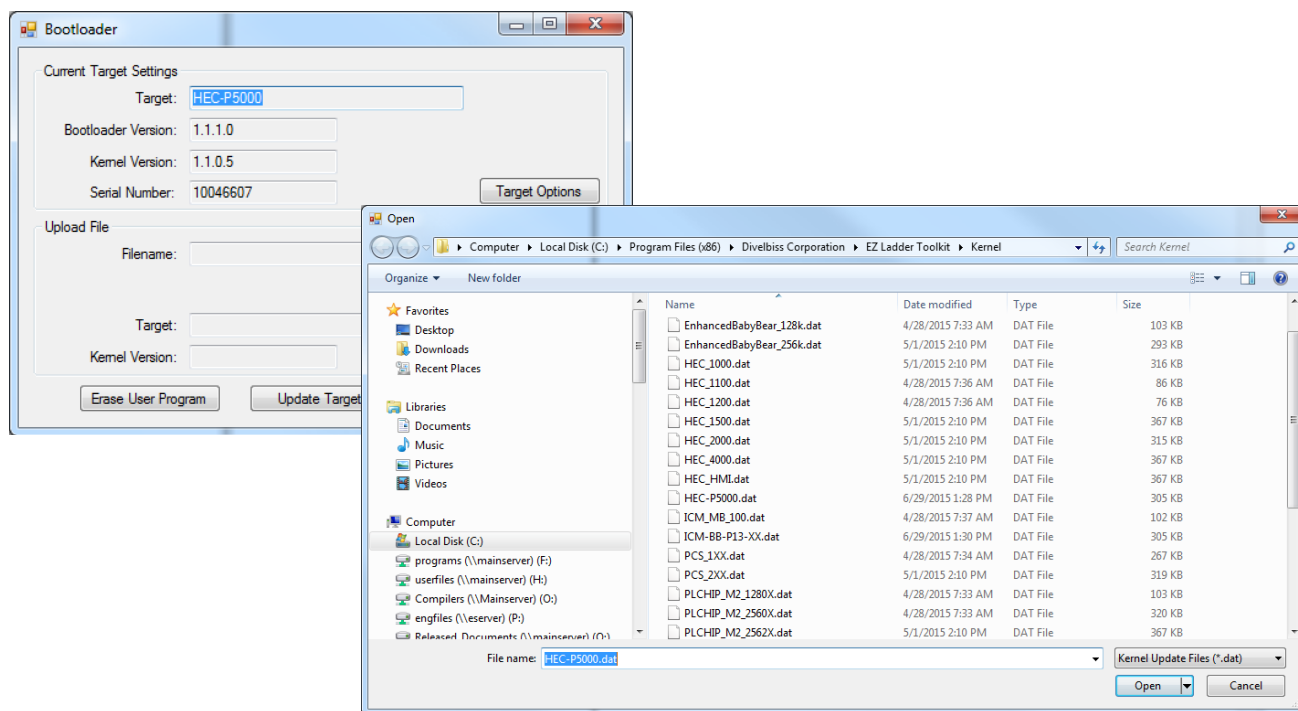

Figure 1.3 - Selecting the Kernel File
7. Click the **BROWSE** button and select the target's kernel (by part number) located by default at C:\Program Files\EZ Ladder\Kernel\. Refer to Figure 1.3.